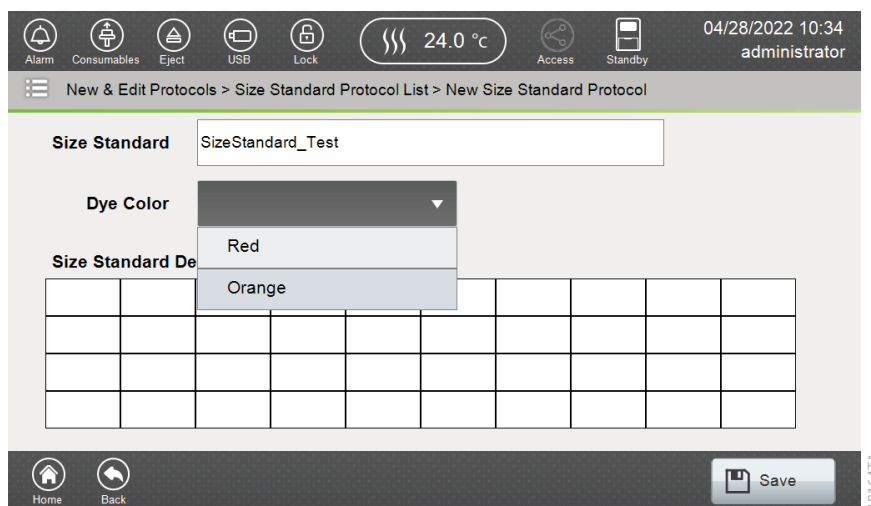

Figure 136. 'New Size Standard Protocol' screen.
3. Enter a unique Size Standard ID, and then select either **Red** or **Orange** from the drop-down list for Dye Color (Figure 136).